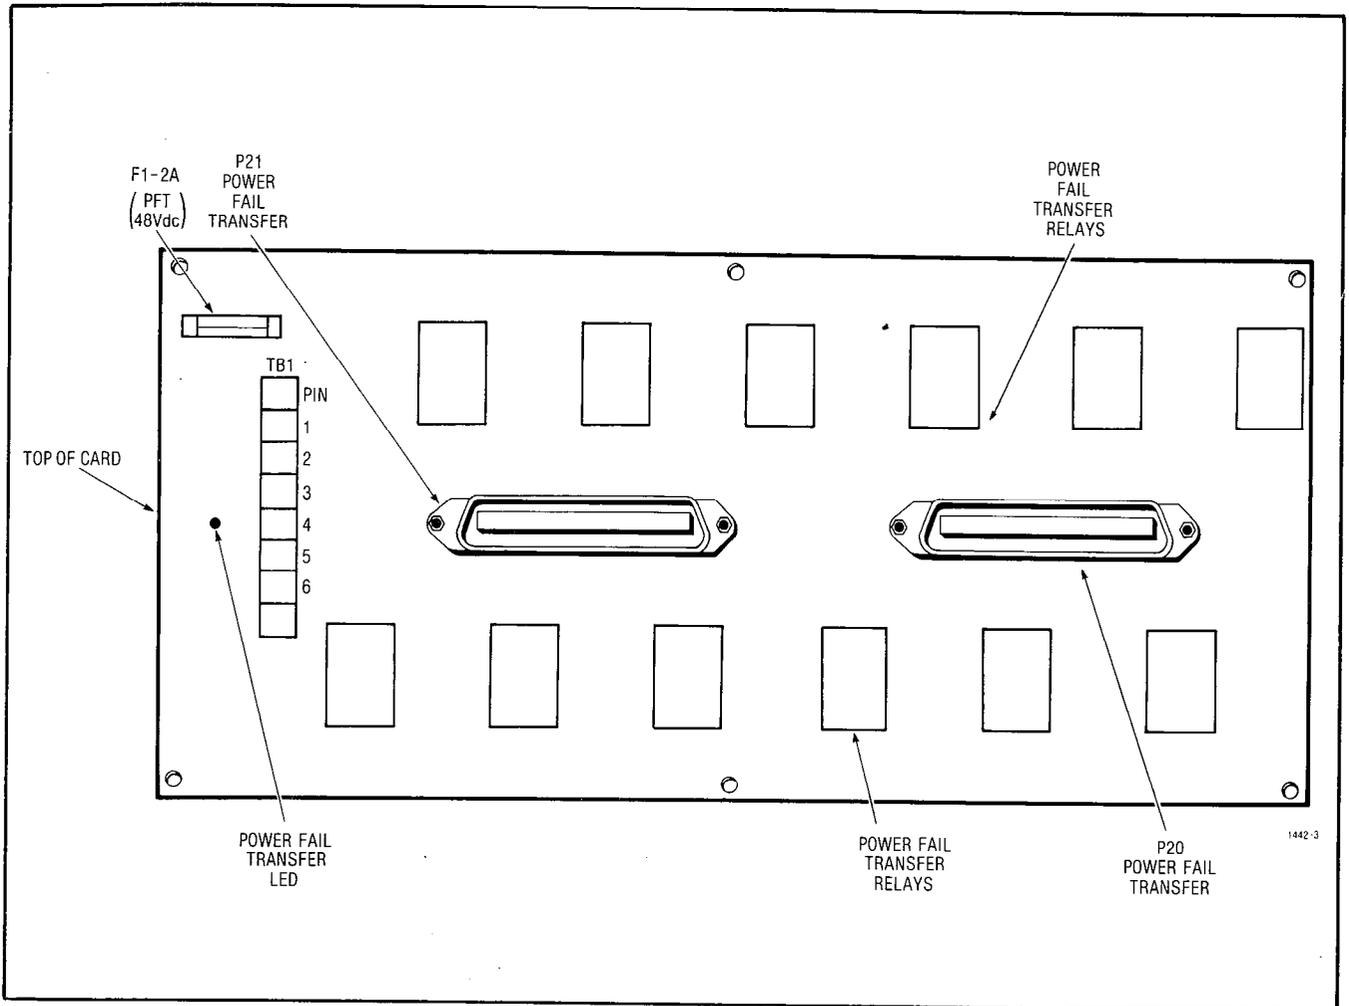

Fig. 2-6 SX-200 Power Fail Transfer Board
2.19 The SX-200 Power Fail Transfer Card (Fig. 2-6) provides for the possibility of twelve CO trunks to be connected to twelve extensions in the event of a commercial power or equipment failure. Two amphenol connectors (P20 and P21, Table 2-7) are hard wired directly to the cross connect field (Appendix 3) to provide for power fail transfer. All power for this card is provided through the cable harness to the power terminal block (TB1) at the top of the board. The power fail transfer LED on this card when not lit indicates